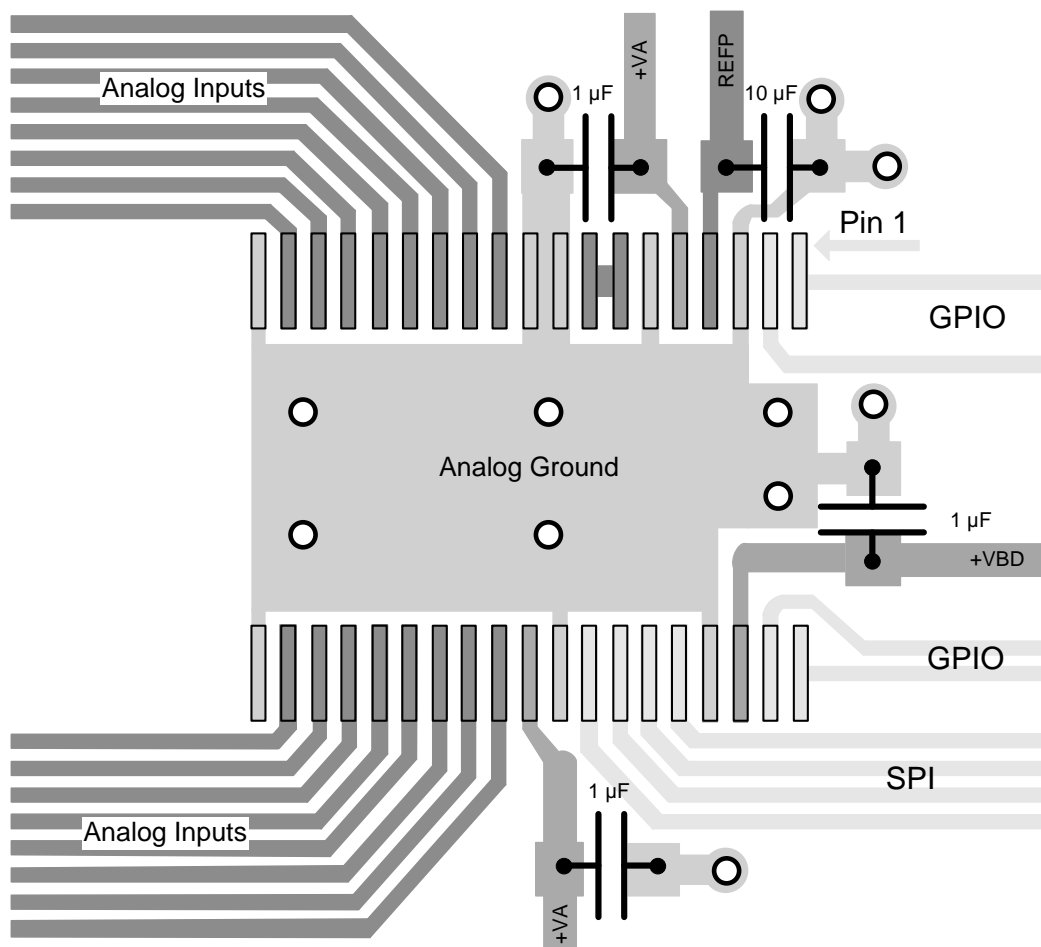

Figure 64. Layout Example
- The power sources must be clean and properly decoupled by placing a capacitor close to each of the three supply pins, as shown in Figure 64. To minimize ground inductance, ensure that each capacitor ground pin is connected to a grounding via by a very short and thick trace.
- The REFP pin requires a 10- $\mu$ F ceramic capacitor to meet performance specifications. Place the capacitor directly next to the device. This capacitor ground pin must be routed to the REFM pin by a very short trace, as shown in Figure 64.
The full-power bandwidth of the converter makes the ADC sensitive to high frequencies in digital lines. Organize components in the PCB by keeping digital lines apart from the analog signal paths. This design configuration is critical to minimize crosstalk. For example, in Figure 64, input drivers are expected to be on the left of the converter and the microcontroller on the right.